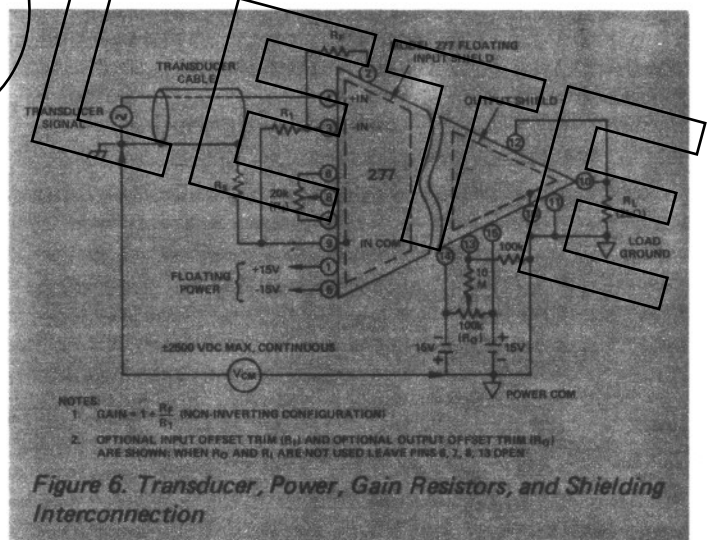

Figure 6. Transducer, Power, Gain Resistors, and Shielding Interconnection
Model 277 CMR performance is best preserved by using shielded signal cable with the shield connected as close as possible to signal low and IN COM to reduce pickup (see Figure 6).
- (1) Refer to Figure 6 for terminal and component designations.
- (2) Connect IN COM to OUT COM and set input signal to zero.
- (3) Place floating DVM across IN FDBK and OUTPUT terminals.
- (4) Null DVM reading using output offset trim potentiometer R_O .
- (5) Disconnect IN COM from OUT COM.
- (6) Place DVM across IN FDBK and IN COM terminals.
- (7) Adjust input offset trim potentiometer, R_1 , until DVM reads zero volts.